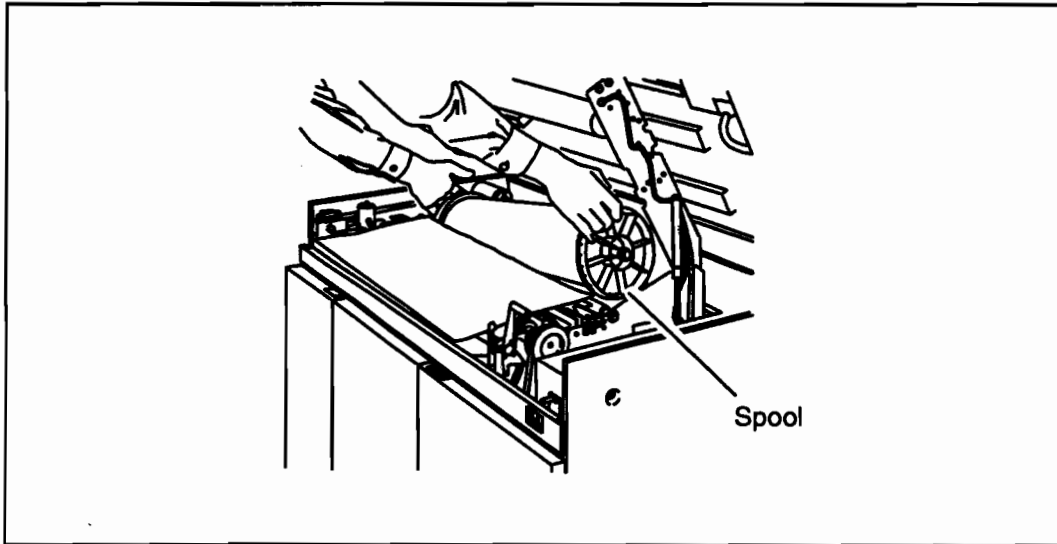

Figure 3-22. Installing the Spool
8. Install the spool into the media compartment of the print engine. See Figure 3-22. Ensure that the media is drawn from the bottom of the roll.